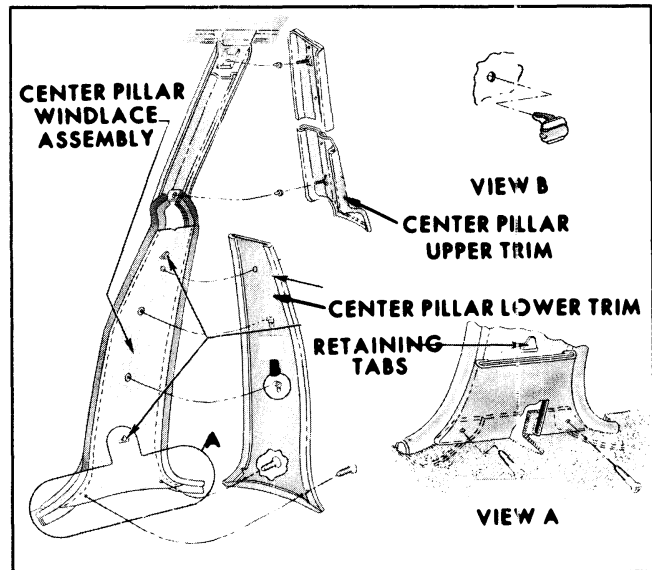

Fig. 5-18-Center Pillar Trim Attachment - Typical Installation
1. Remove center pillar upper trim by gently prying serrated attaching nails from center pillar (Fig. 5-18).